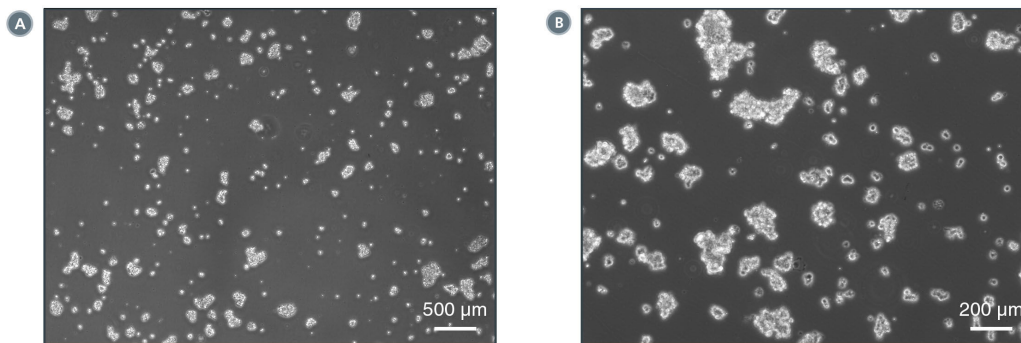

Figure 1. Examples of ideal cell aggregates (mean size of approximately 50 - 200 μm) obtained after step 8 of the protocol.
- TeSR™-AOF cultures: Room temperature for 6 - 8 minutesNOTE: Optimal dissociation time may vary depending on the cell line used; when passaging a cell line with ReLeSR™ for the first time, the optimal dissociation time should be determined. For more information, see Figure 1 and Notes and Tips.
8. Transfer the detached cell aggregates to a 15 mL tube (e.g. Catalog #38009) using a 5 mL serological pipette (e.g. Catalog #38003). Cell aggregates should be appropriately sized for plating (mean aggregate size of approximately 50 - 200 μm ; see Figure 1 and Notes and Tips).
The ideal mean cell aggregate size obtained after step 8 of the protocol is approximately 50 - 200 μm (see Figure 1). The ReLeSR™ passaging protocol may need to be optimized when using different cell lines. The following are some troubleshooting suggestions:
- Pipette the cell aggregate mixture up and down until the ideal aggregate size is obtained (see Figure 1 for example). Avoid generating a single-cell suspension.